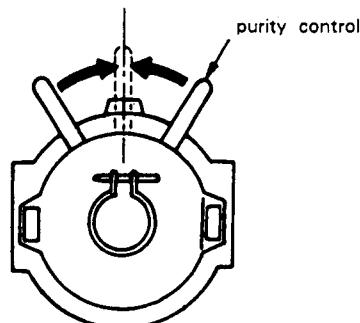

Fig. 3-1.
- 2. Adjust purity control as shown in Fig. 3-1.